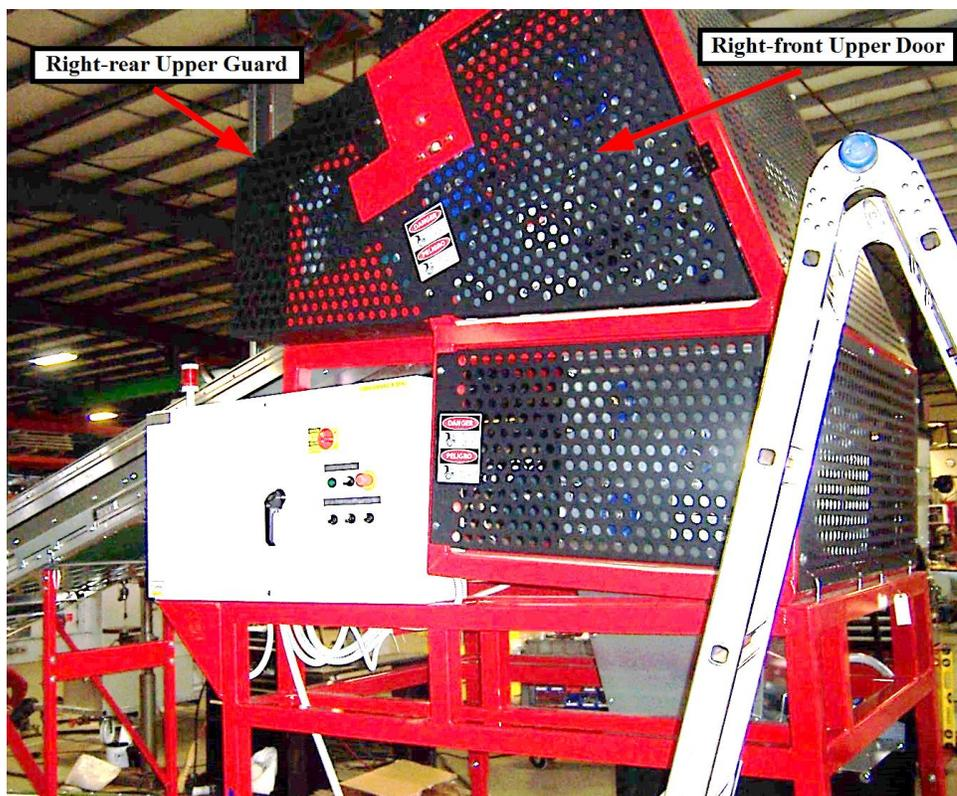

Figure 1
1. To gain access, open right-front upper door and remove right-rear upper guard. **See Figure 1.**